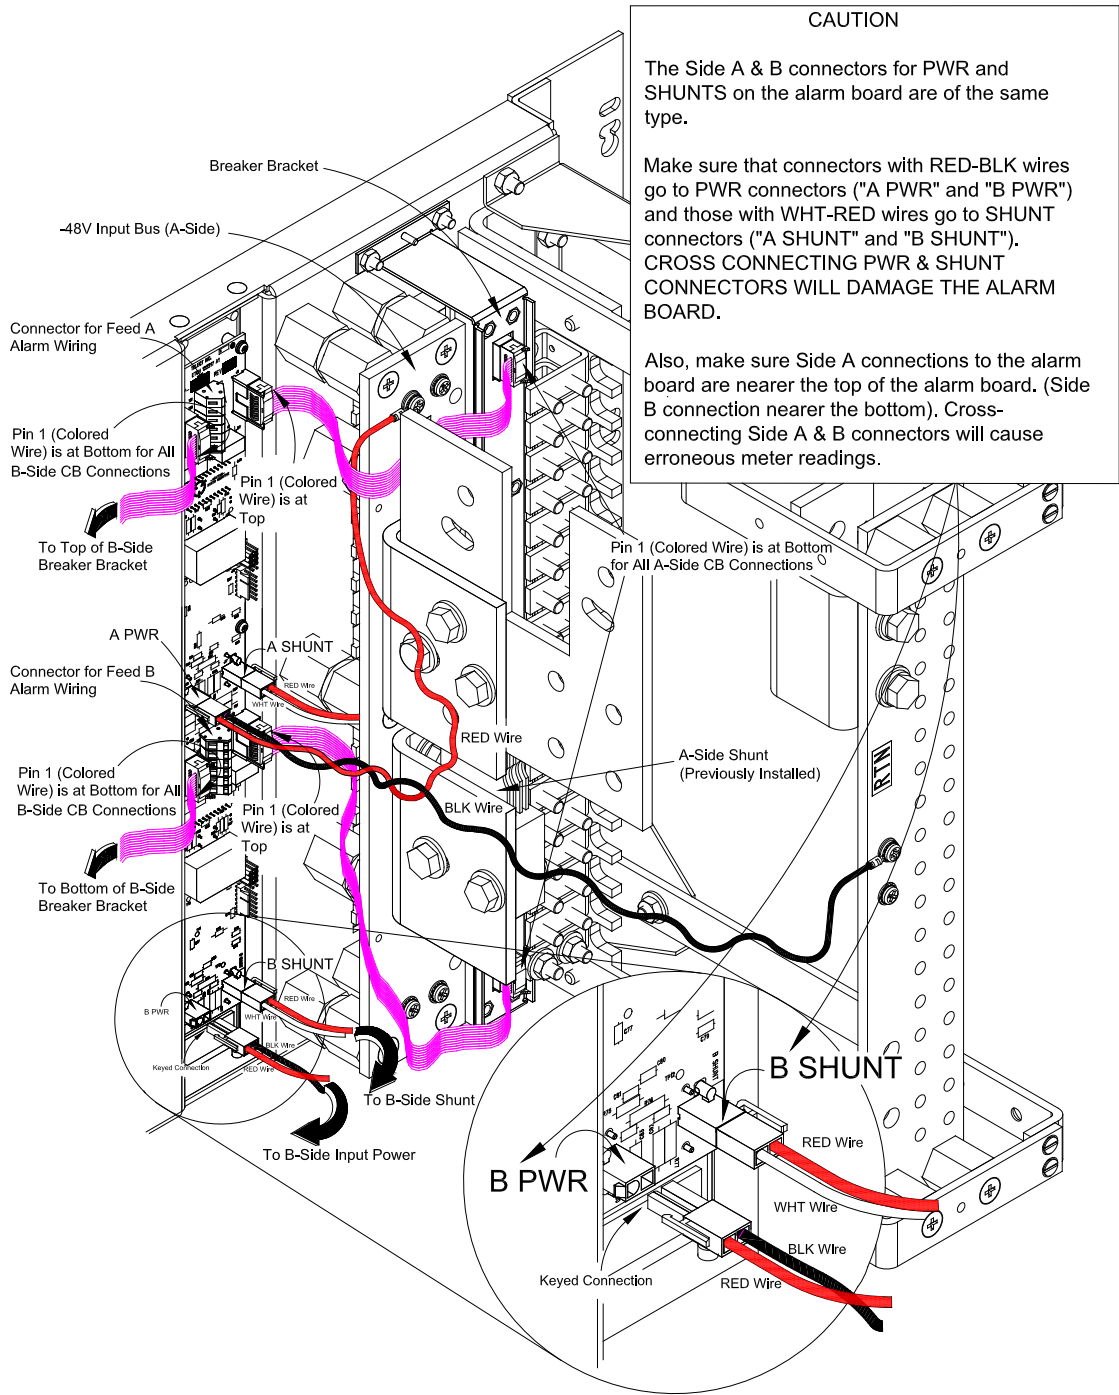

Figure 4 - Electrical Interconnections Involving Metering Panel, Power, Circuit Breakers & Shunts
4. Connect the twisted pairs, ribbon cables, and alarm wires to the alarm board on the metering panel, as shown in Figure 4.)
NOTE: When installing connectors, make sure you connect the A input bus to the "A PWR" connector on the alarm board, B input bus to "B PWR", Shunt A to the "A SHUNT", and Shunt B to "B SHUNT". **DON'T CROSS-CONNECT SHUNTS AND POWER** on the alarm board. (See the Caution in Figure 4.)